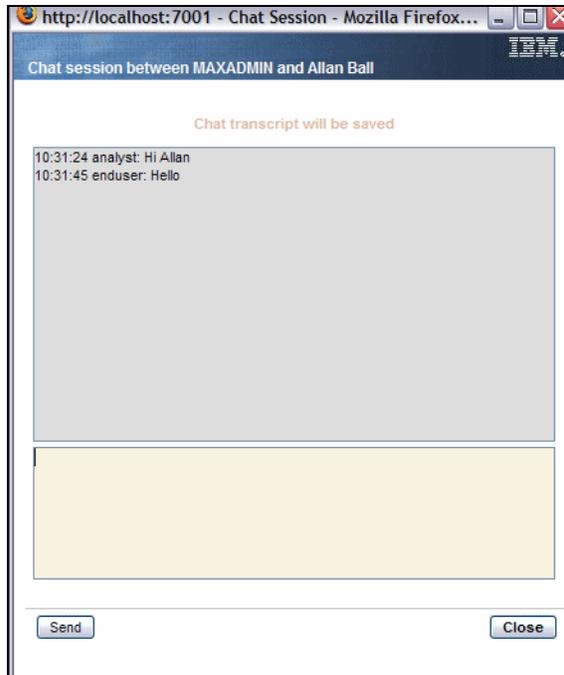

Figure 7-16 Close connection
8. To close the session, select **Close** (refer to Figure 7-16).